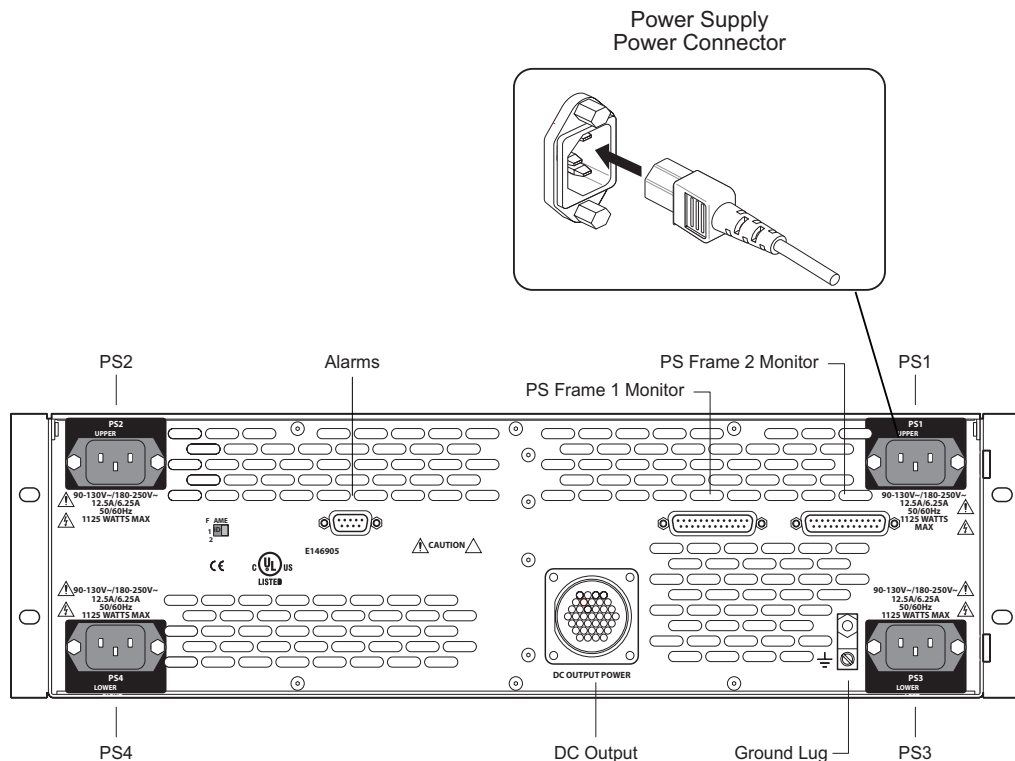

Figure 3-5. NV8000 Power Supply (Rear View)
- 2 Facing the rear of the **NV8000**, using the power cable (WC0096), connect one power connector to ‘DC Output’, as shown in Figure 3-5.
- 5 Facing the rear of the **NV8000**, connect one end of the monitor cable (WC0046) to the ‘PS Frame 1 Monitor’ DB25 connection, as shown in Figure 3-5 on page 30.
- 7 Facing the rear of the **NV8000**, connect power cords from an AC power source (90–230 VAC, 50–60 Hz) into power supply connections *PS 1* through *PS 4*, as shown in Figure 3-5 on page 30. Connect one power cord for each PS8010 power supply module installed. (See step 8.)
- 1 Facing the rear of one of the two **NV8000**, connect one end of the monitor cable (WC0046) to the 'PS Frame 2 Monitor' DB25 connection, as shown in Figure 3-5 on page 30.
- 2 Facing the rear of the remaining **NV8000**, make a loop-through connection using the other end of the monitor cable (WC0046) to the 'PS Frame 2 Monitor' DB25 connection, as shown in Figure 3-5 on page 30.